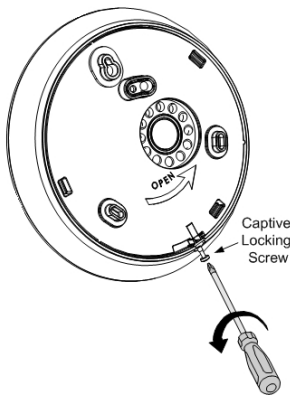

Figure 3-1: Releasing the locking screw
2. Release the mounting bracket captive locking screw (see Figure 3-1).
5. Secure the captive locking screw (see Figure 3-1)